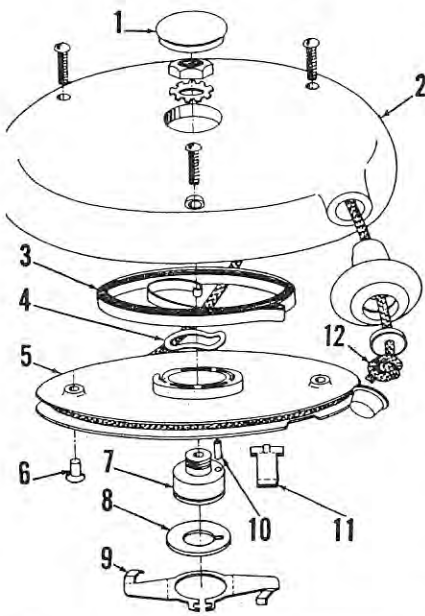

Fig. Mc12—Exploded view of recoil starter assembly.
Fig. Mc12 shows an exploded view of the recoil starter assembly. To renew the starter pawls (11) or friction spring (9), remove the starter assembly, remove retaining ring from bottom of pivot bolt (7), then slip the spring and pawls from starter assembly.